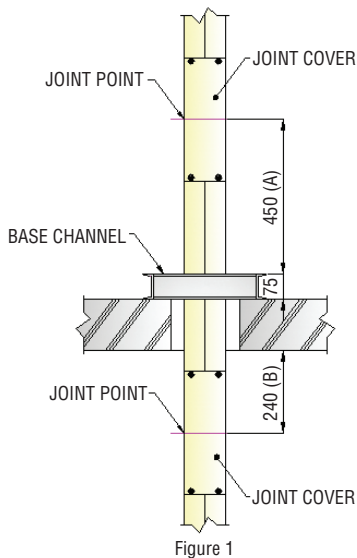
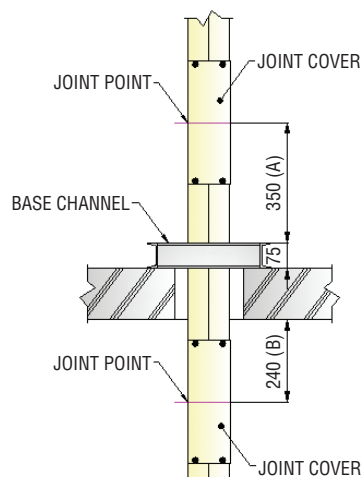

Figure 1
Figure 2
4) Busduct jointing point and the floor/ceiling surface through floor installation as per Figure 1 and ceiling surface as per Figure 2.